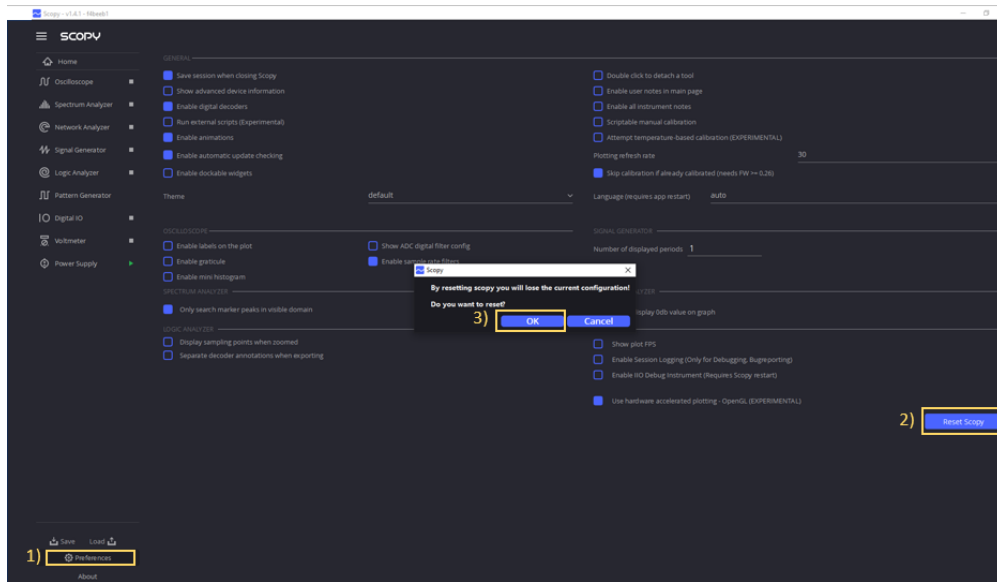

Figure 6. Configuring Scopy
3. Open Scopy. Then click the **Preferences** icon on the lower-left panel, and select **Reset Scopy**. See Figure 6.